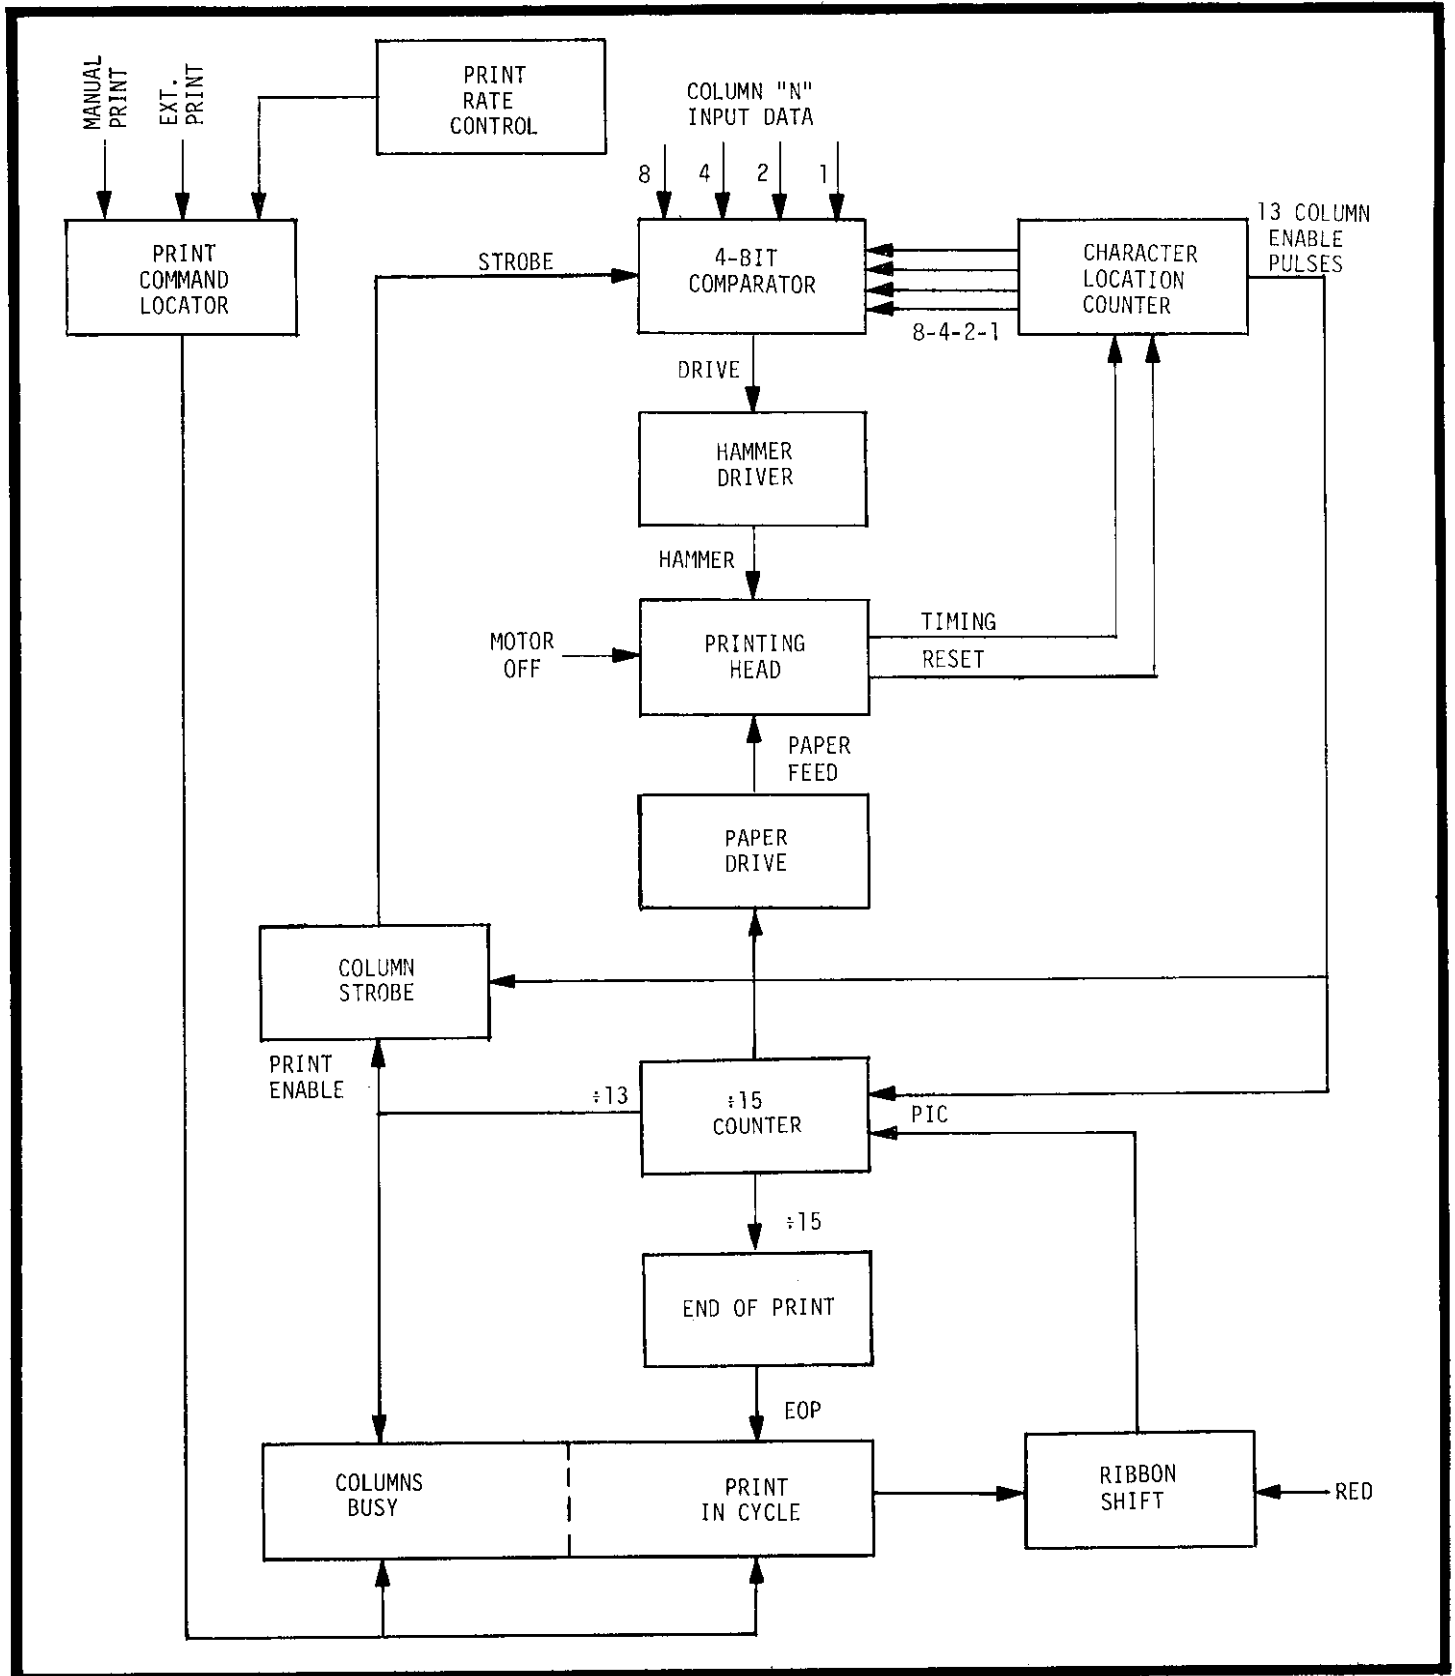

FIGURE 13. Simplified Block Diagram.
b. A simplified block diagram of the 750 Printer is given in Figure 13. The operation of all columns is the same, therefore, column input data represents any one of the 18 columns available.